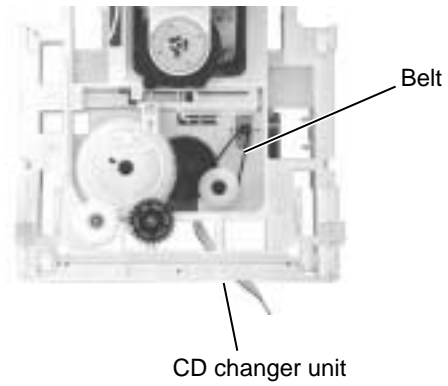

Fig.8
■Removing the belt, the CD board and the switch board (See Fig.8 and 9)